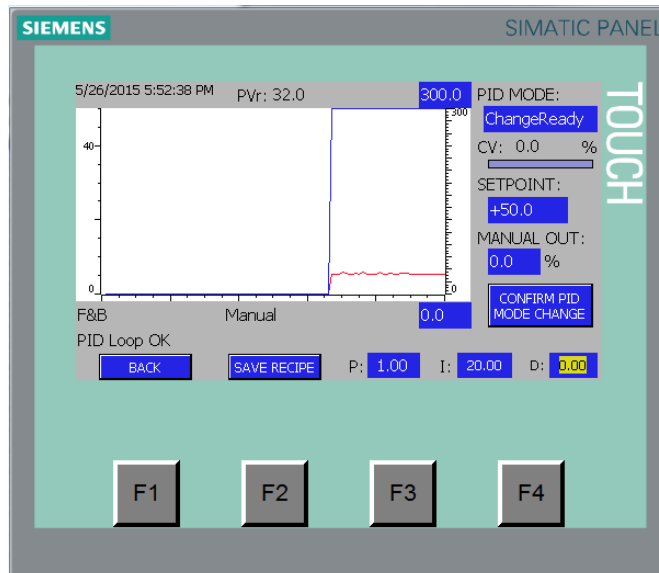

Figure 3-11
1. To check the humidity setpoint, from the Machine Running screen (Figure 3-3) press the PROCESS SETUP button followed by the F&B button to access the Humidity Setpoint and PID screen. See Figure 3-11.
4. From the Humidity Setpoint and PID screen (Figure 3-11), press the P, I, or D text box to highlight the corresponding field for the control values. The system will present a screen which sets the PID parameters for the reactivation control system. Use the pop-up keyboard to select any characters to change. Press Enter again to save the changes and return to the Reactivation Setpoint and PID screen.
5. From the Humidity Setpoint and PID screen (Figure 3-11), press the min or max text box to highlight the corresponding field for chart scale. The system will present a screen which sets the min or max chart scale values. Use the pop-up keyboard to select any characters to change. Press Enter again to save the changes and return to the Reactivation Setpoint and PID screen.
6. From the Humidity Setpoint and PID screen (Figure 3-11), press the PID MODE text box to highlight the field for the PID mode. The system will present the following options for PID modes: